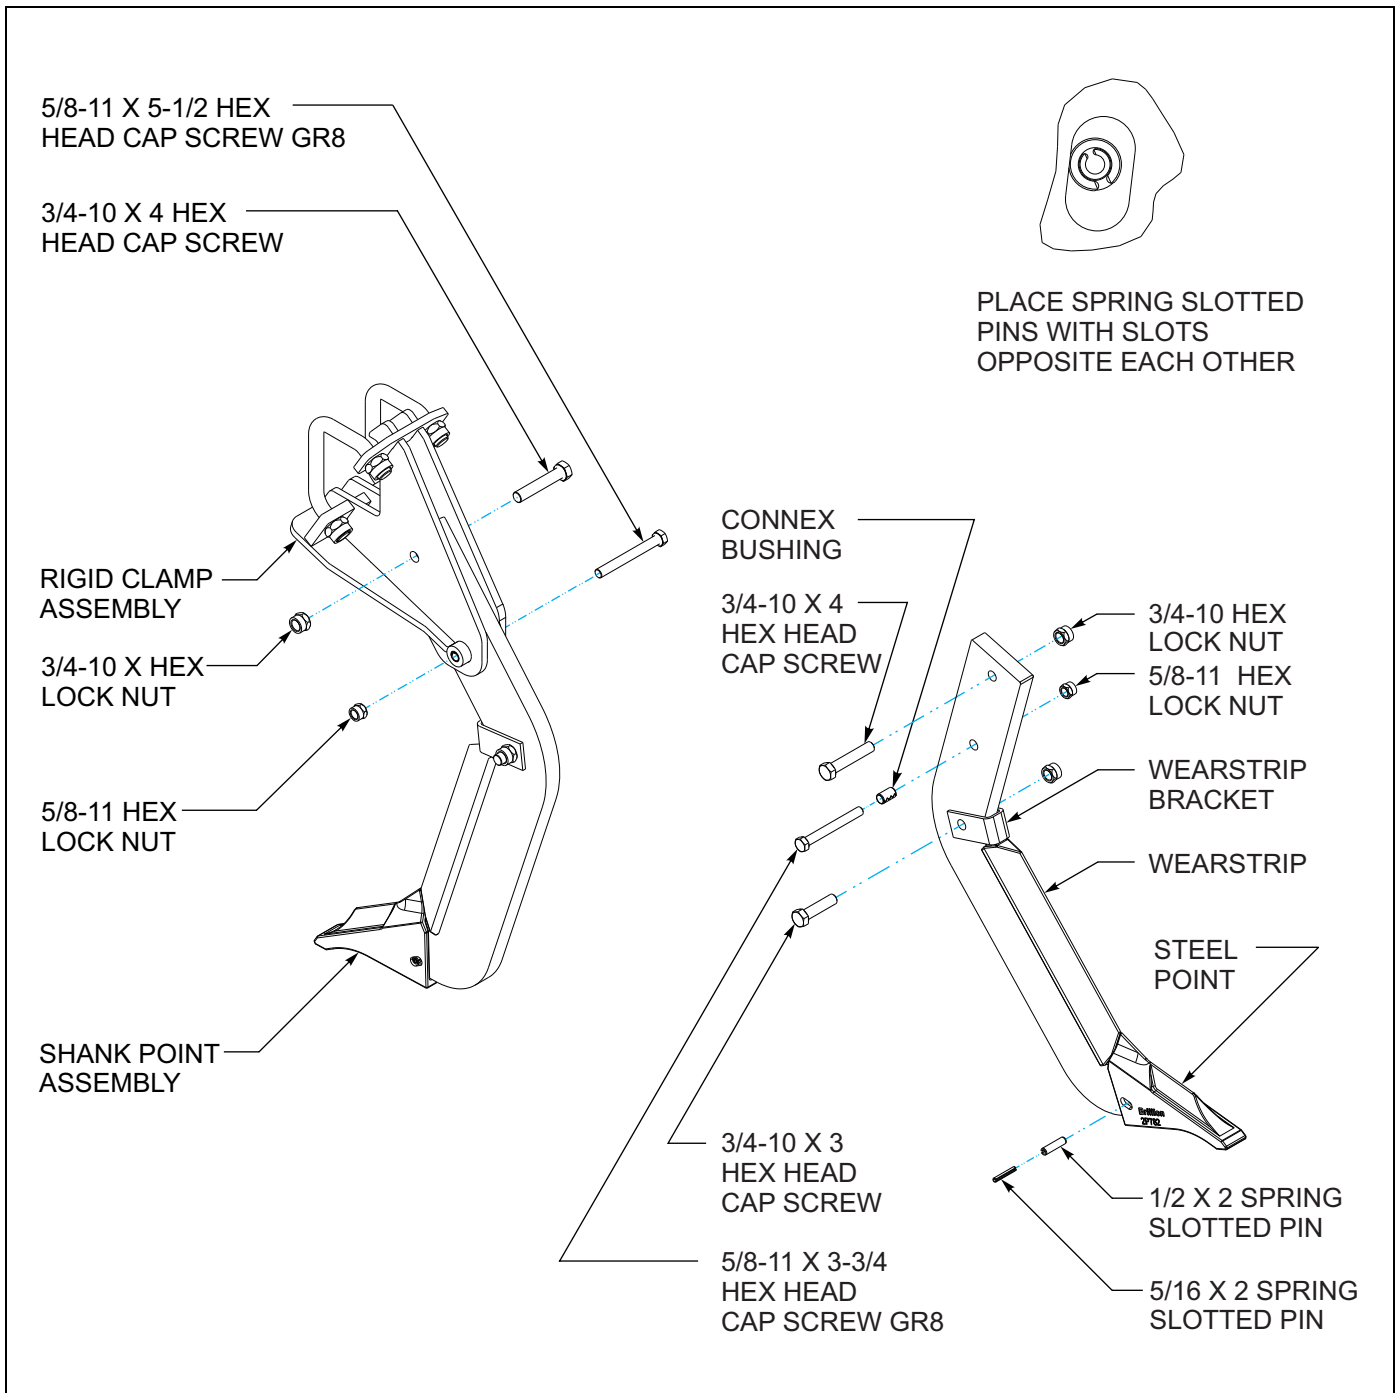

Figure 3-5: RSB Clamp and Straight Leg Shank Assembly
2. Attach wearstrip to straight leg shank using wearstrip bracket, 3/4-10 x 3 hex head cap screw, and 3/4-10 hex lock nut (**See Figures 3-5 thru 3-7.**)